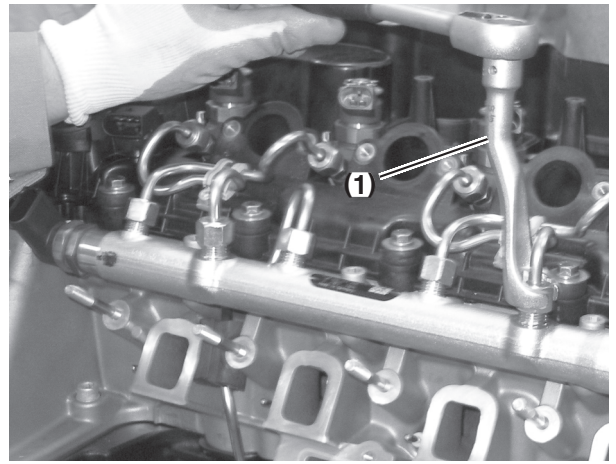

Figure 6-17
5. Loosen union nuts on high-pressure fuel line(s) using special tool OEM No. 13 5 020 (or similar) (**Figure 6-17, (1)**).